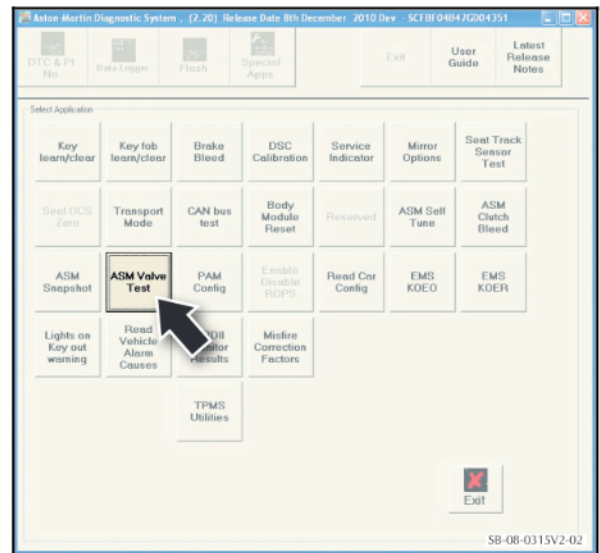

Figure 2
- Click on "ASM Valve Test" (refer to Figure 2).